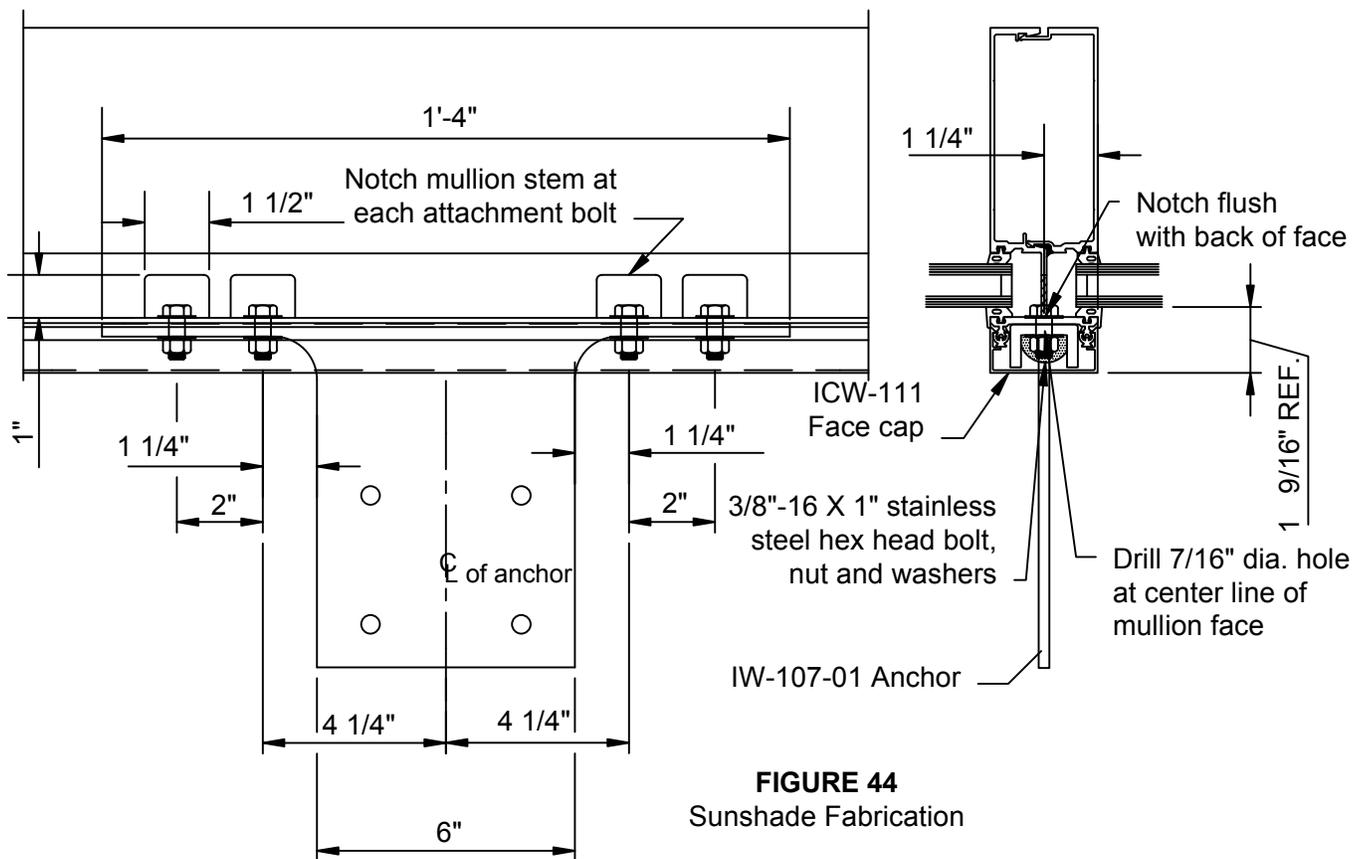

FIGURE 44
- S.1 Mill cutouts from stem of mullion at location of each anchor bolt, 4 bolts shown are for standard application and your project may require additional fasteners based on engineers review. Cutouts will be 1-1/2" wide by 1" deep and must be flush with back of mullion face. Location will vary depending on project requirements, pattern shown is for standard anchor only. SEE FIGURE 44
- S.2 Drill face of mullion with 7/16" Ø holes for 3/8" anchor bolts. SEE FIGURE 44
- S.6 ICW-111 face cap required for projects with sunshade installation. Face cap will be notched at each anchor. SEE FIGURE 44